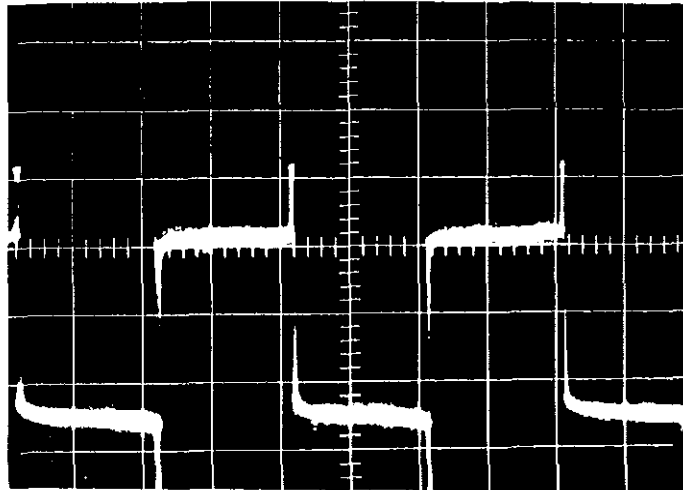

FIGURE 15. Correct Wave Form in dc-to-dc Inverter. Point E, Figure 26, was monitored. Scale is 5 v/cm vertical, 0.2 msec/cm horizontal.
4. Turn the POWER SUPPLY Switch to AC. Use the oscilloscope to check the wave form at point E (Figure 26) in the dc-to-dc inverter. Wave form should resemble that in Figure 15.